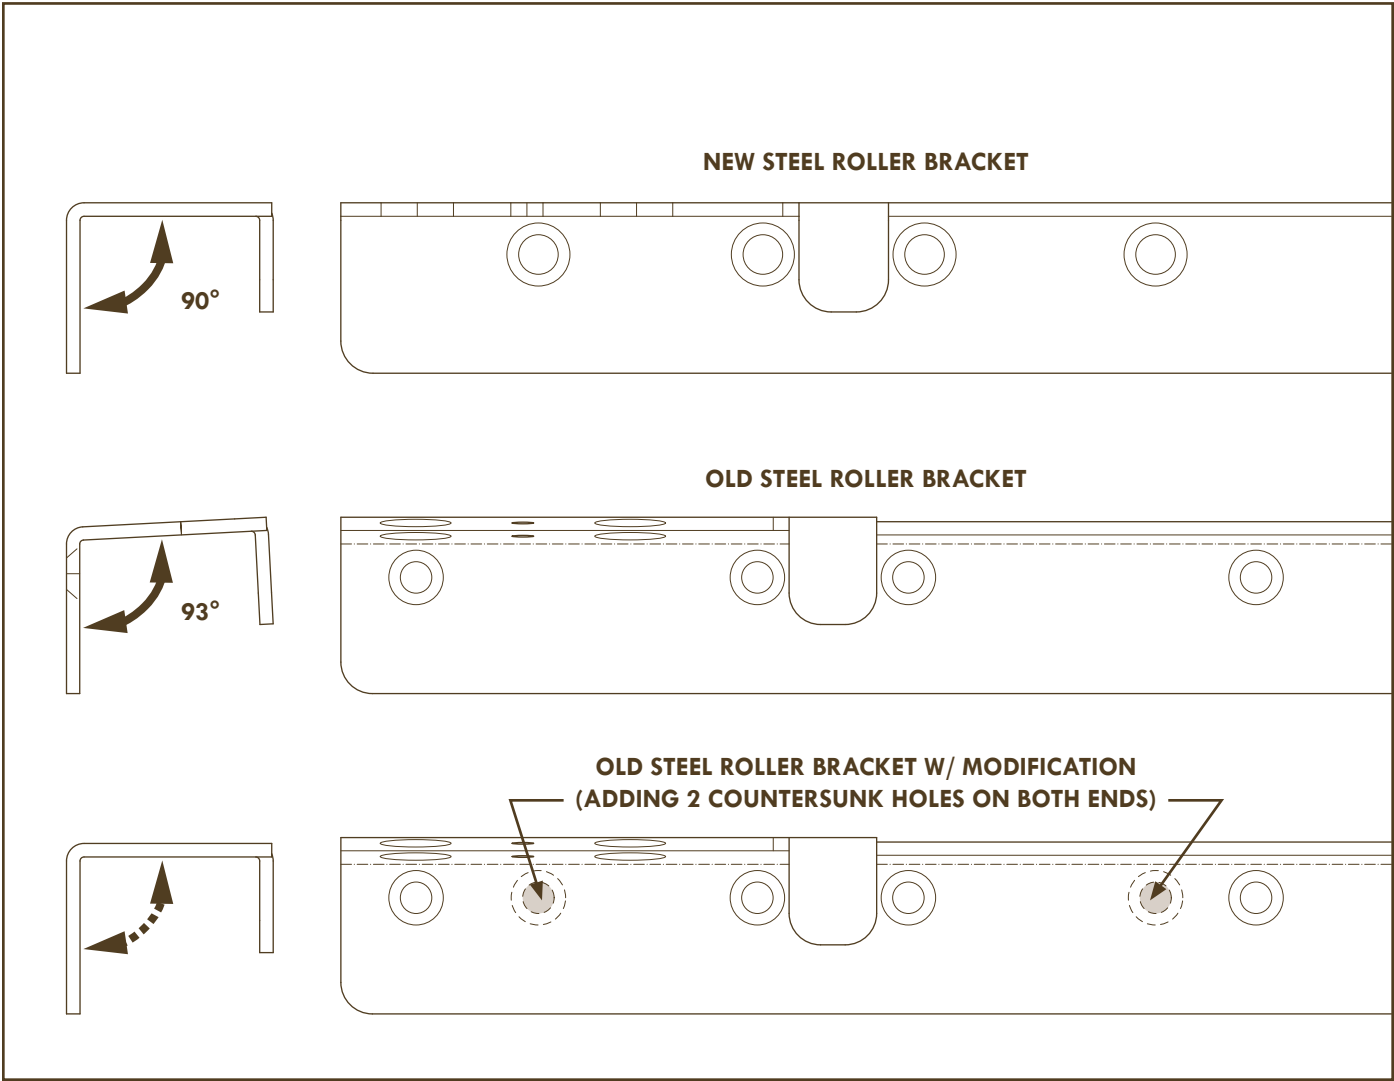

Figure 10. Modification of Steel Roller Bracket
It is possible to modify existing Steel Roller Bracket to fit the new Frameless Glass Hanger Bracket Assembly, by adding four (4) countersunk holes (two holes on both ends), and bending the angle to 90°. The image below (Figure 10) shows the two holes in a new position, and that the old angle was 93°, while the new angle should be 90°.